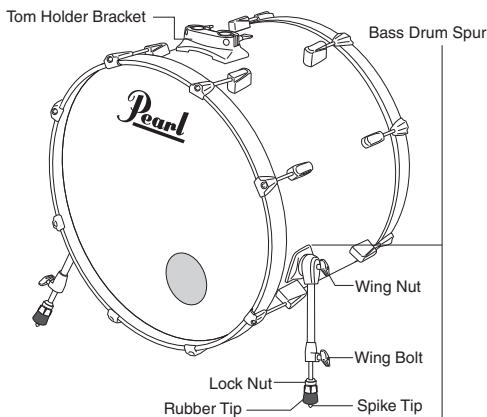

Fig.5
4. Position the Bass Drum with the Tom Holder Bracket facing upwards. Loosen the Wing Nut on the Bass Drum Spur and rotate it to the position shown. Tighten the Wing Nut to secure. Loosen the Wing Bolt and extend the Spurs so that the front of the Bass Drum is about an inch off the floor. Make sure that the Spurs on both sides are equal in length, and tighten the Wing Bolts. The Bass Drum Spurs have Spike Tips (for added slip resistance) that can be exposed by turning the Lock Nut and Rubber Tip clockwise (Fig.5).